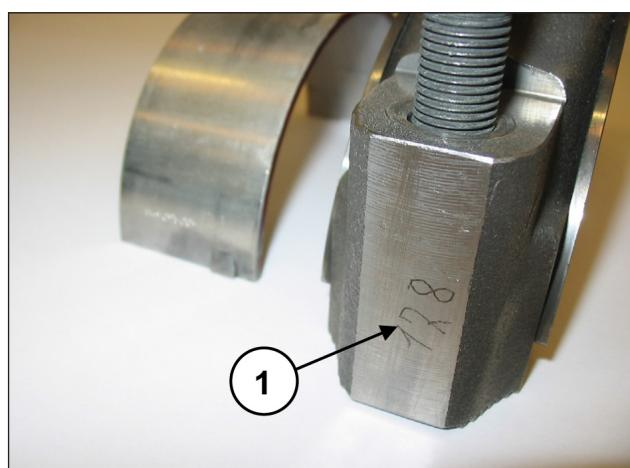

Fig. 42
Couple the half supports to the previously disassembled caps, referring to the numbering (pos. ①, Fig. 42).
Separate the caps from the half supports. Proper coupling can be verified by the numbering on the side (pos. ①, Fig. 42). After having checked casing cleaning, proceed with assembly of half support-piston guide unit inside casing rods (pos. ①, Fig. 41).